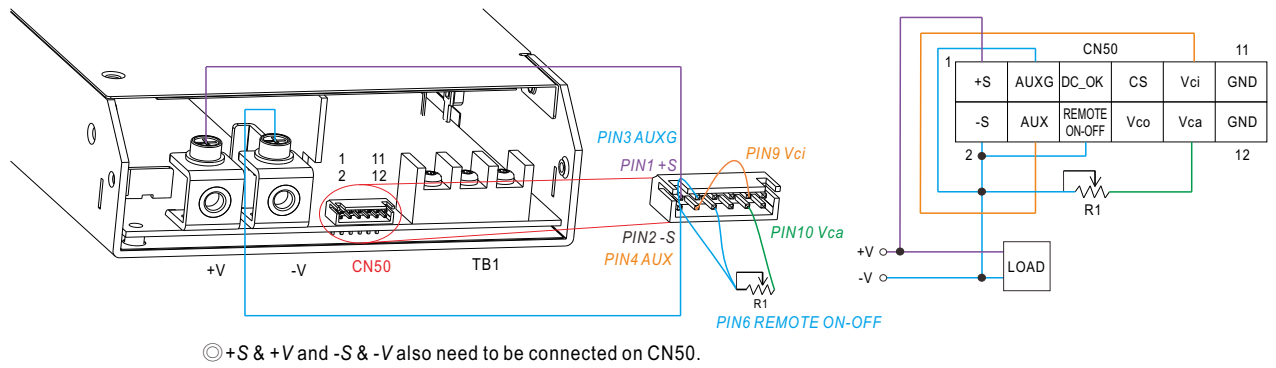

Fig 4.2
(2)Applying EXTERANL RESISTANCE as shown in Fig4.2 & Fig 4.3